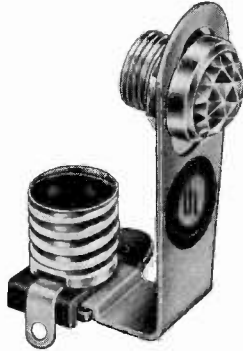

FIG. 22
- No. 10-18-14-431 Faceted  $\frac{1}{2}$ " Lens (for  $\frac{7}{16}$ " mounting hole) (Fig. 22)